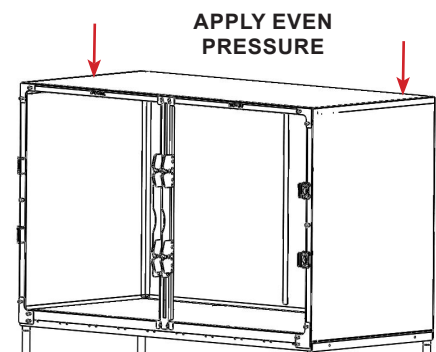

FIGURE 2.64 - Top Panel Installation
**STEP 18:** Once the top panel is secure against the cage, apply even firm pressure for 60 seconds (minimum) to the top panel to adhere the panel to the back of the cage. See FIGURE 2.64